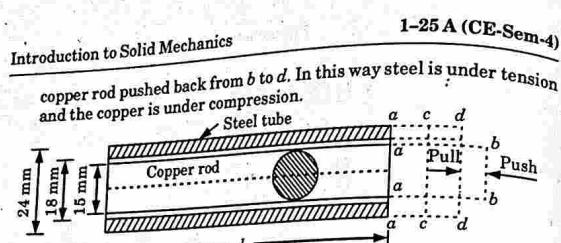

Fig. 1.25.1.
i. Fig. 1.25.1 since $\alpha_c > \alpha_s$, elongation of copper will naturally be more than that of steel for the same rise of temperature but since they are rigidly jointed at each end, the copper rod will venture to pull the steel tube along with it; whereas the steel tube will struggle to bring the copper rod back.